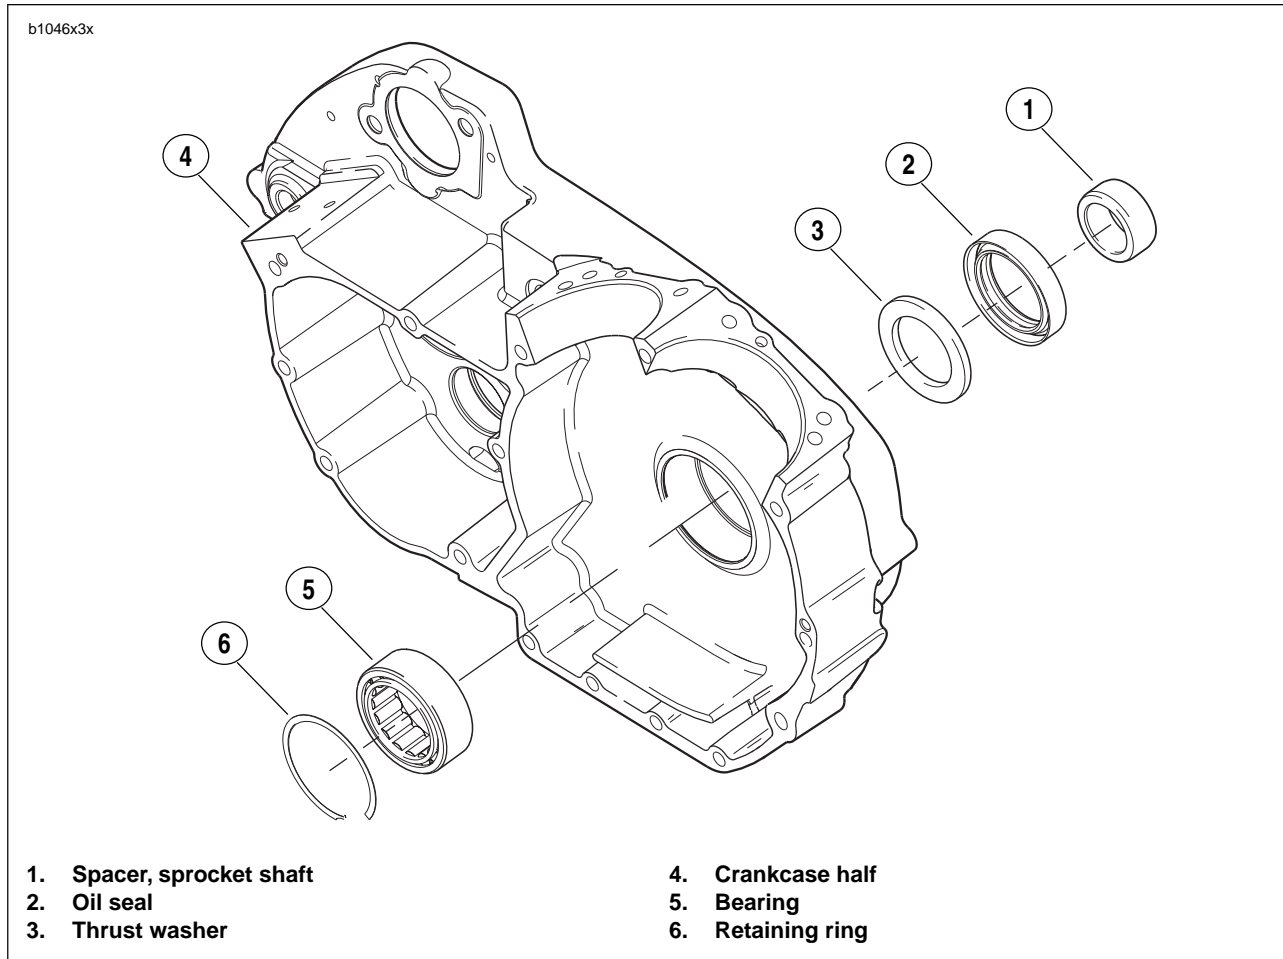

Figure 3-149. Left Main Bearing Assembly
8. See Figure 3-149. Install thrust washer (3) from the outside against the left main bearing.
9. Install **new** spacer (1) in seal ID. With the thin (lipped) side facing outward, center seal/spacer assembly over bearing bore.